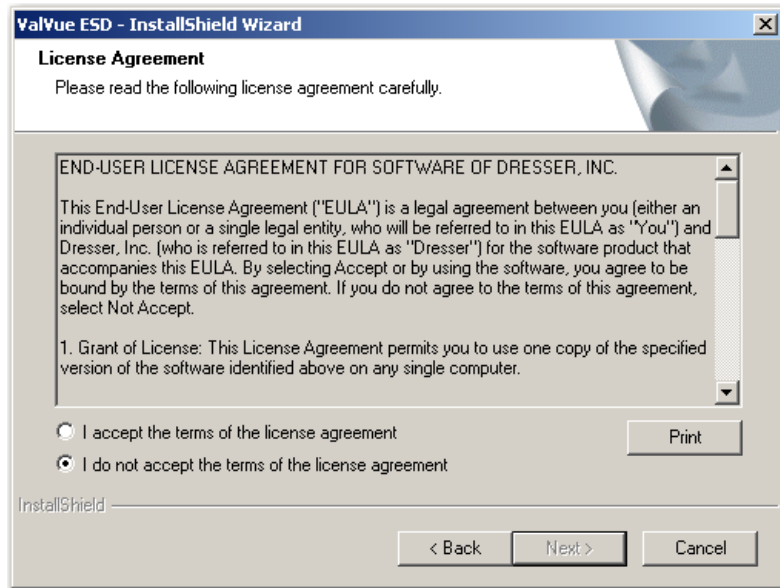

Figure 5 License Agreement
4. Click **Next** and the *License Agreement* screen appears (Figure 5).